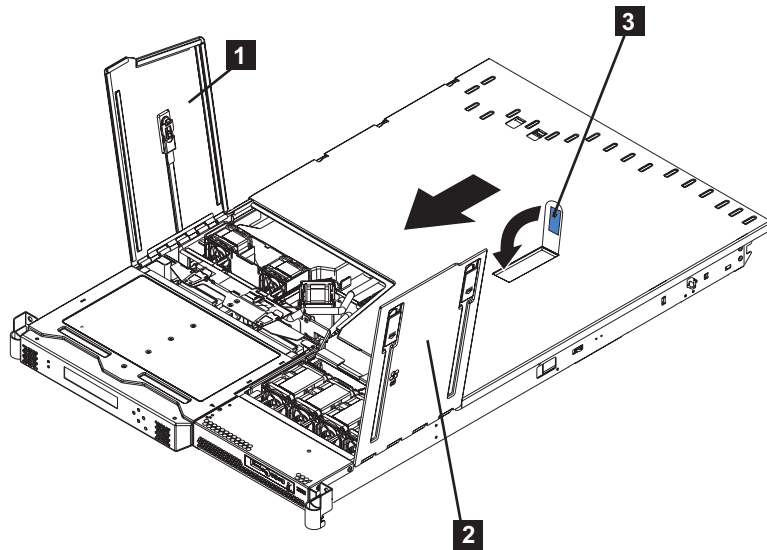

Figure 46. The SAN Volume Controller 2145-8F2 with fan doors open
3. Press down on the cover release latch **3** until the cover properly engages all the inset tabs on the SAN Volume Controller 2145-8F2. See Figure 46.